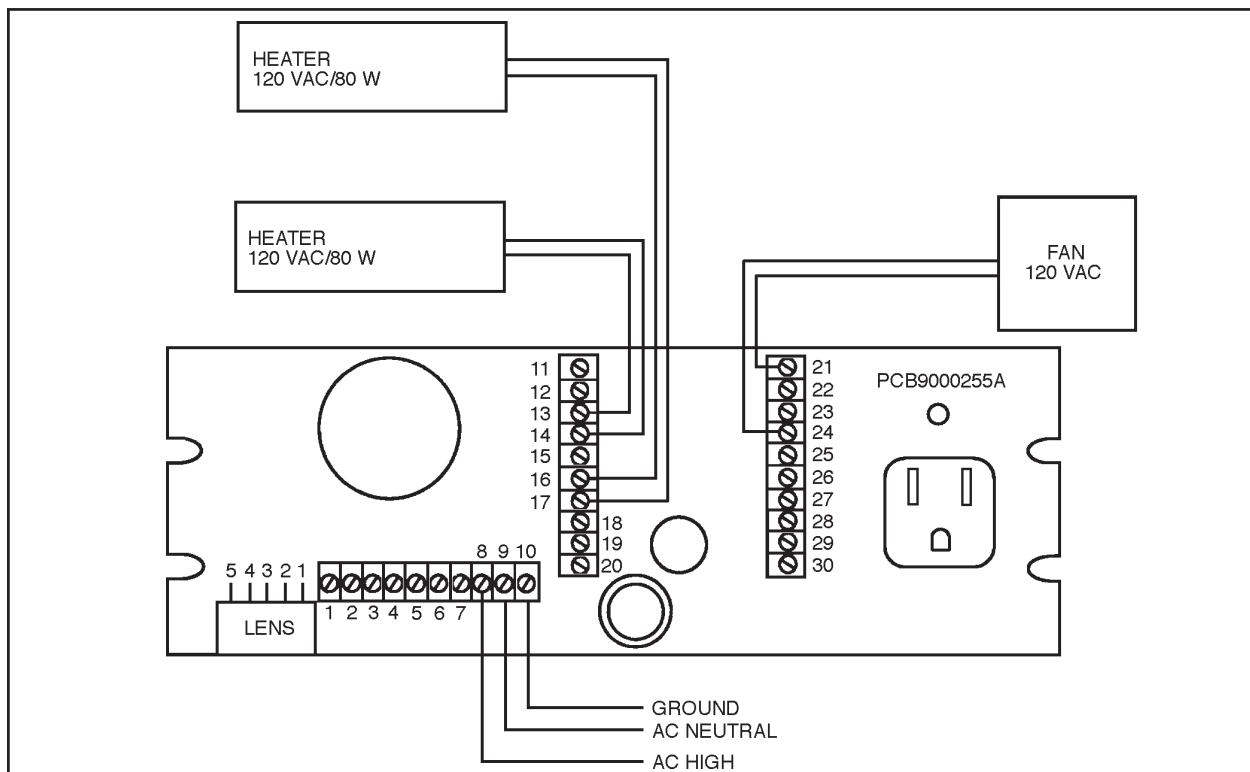

Figure 3. Heater/Blower Wiring Diagram (120 VAC)
These models are supplied with a factory installed heater/blower and service light. Supply 120 VAC power for the heater/blower and wire according to Figures 3.
**Wiring Pin Assignments Figure 3**